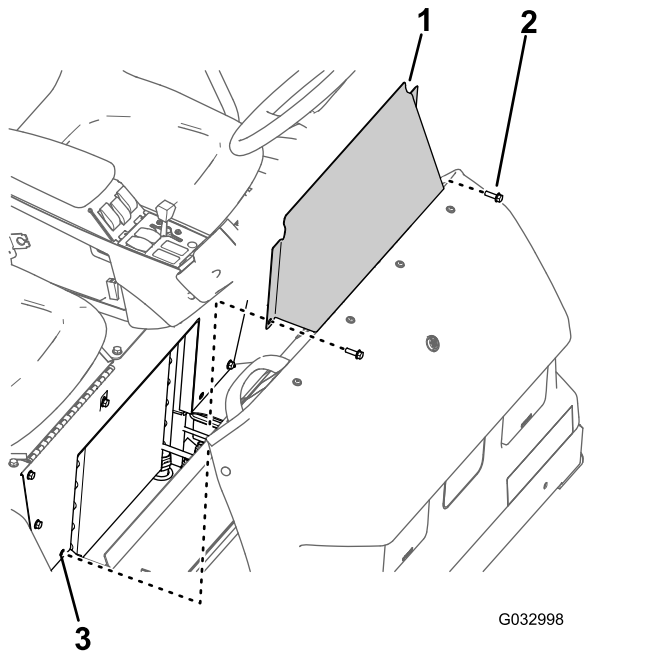

Figure 65
1. Remove the 2 flanged-head bolts that secure the seat-base-access panel to the seat base (Figure 65).
2. Remove the seat-base-access panel from the machine (Figure 65).
1. Align the holes in the seat-base-access panel with the holes in the seat base (Figure 65).
2. Assemble the seat-base-access panel to the seat base with the 2 flanged-head bolts (Figure 65) that you removed in step 1 of Removing the Seat-Base-Access Panel (page 52).